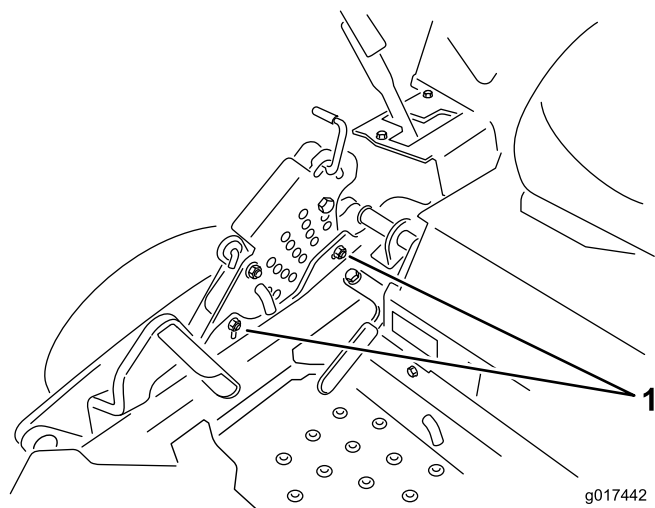

Figure 75
12. To adjust the single point system, loosen the 2 bolts at the bottom of the height-of-cut plate (Figure 75).
14. Tighten the 2 bolts at the bottom of the height-of-cut plate (Figure 75). T